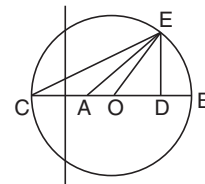

FIGURE 8.20. Mohr's circle.
90. Figure 8.20 shows the Mohr's circle of stress for two unequal unlike principal stresses. The two unequal unlike principal stresses are given by
91. In Fig. 8.20, radius of Mohr's circle is
92. In Fig. 8.20, the normal stress is given by
93. In Fig. 8.20, the tangential stress is given by
94. In Fig. 8.20, the resultant stress is given by
95. In Fig. 8.20, obliquity is represented by
96. In Fig. 8.20, the angle of oblique plane on which normal and tangential stresses are determined, is given by
97. In Fig. 8.20, the maximum shear stress is equal to